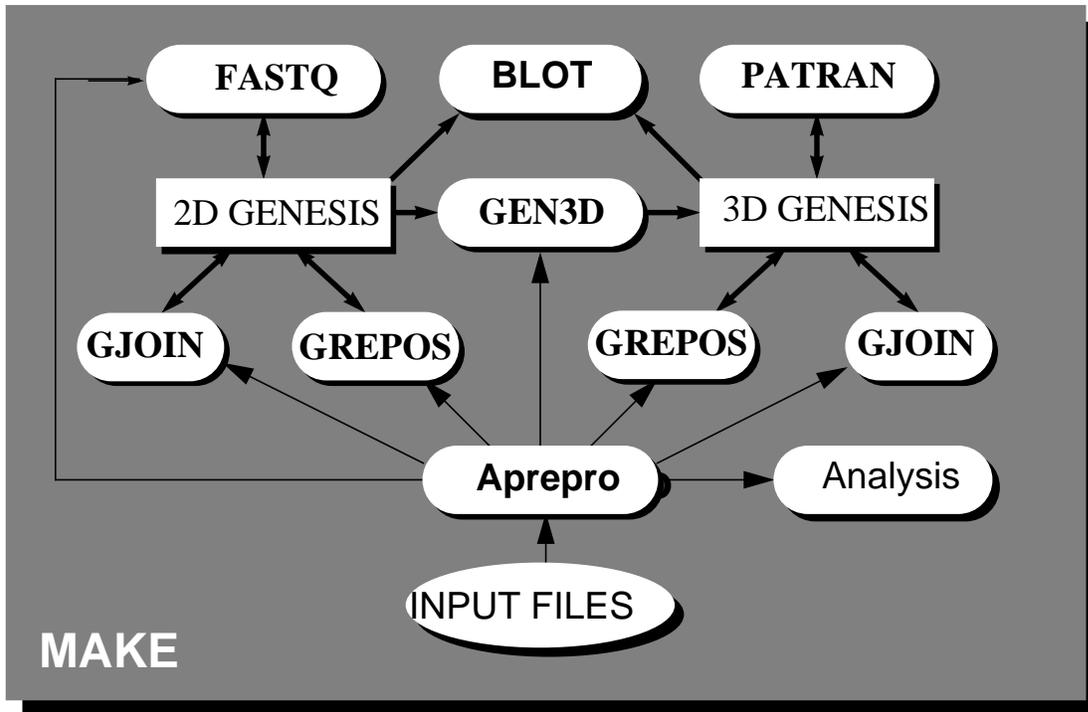

Figure 1. Schematic of SEACAS Mesh Generation Process
*GREPOS* is typically used with the other SEACAS mesh generation codes *FASTQ* [2], *GEN3D* [3], *GENSHELL* [4], *GJOIN* [5], and *Aprepro* [6]. Figure 1 shows the structure of the SEACAS mesh generation toolbox. The basic premise underlying this toolbox is that complicated geometries can be generated using a set of small specialized codes.